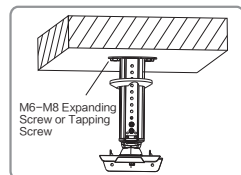

Figure 6
1. Fix the base on the ceiling or concrete (please ensure that the load is 40kg at least). Figure 6